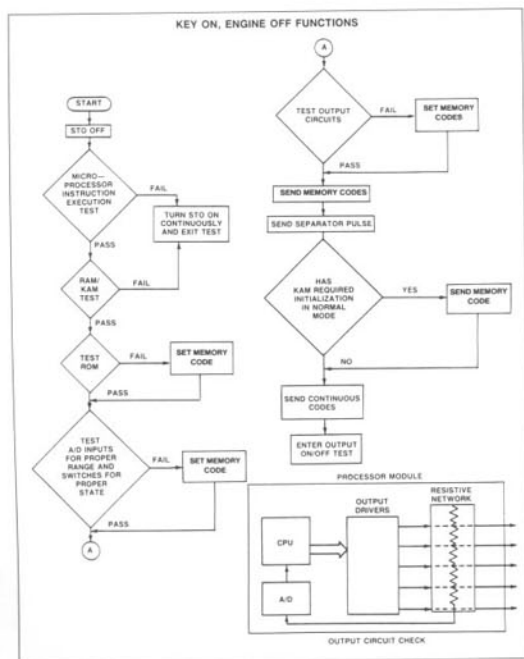

Fig. 4-3. Key On Engine Off (KOEO) Self-Test.
**KOEO (Key ON Engine Off) codes:** To see what happens when you activate KOEO Self-Test, follow the flow chart in Fig. 4-3. From Self-Test Output (STO) OFF, the sequence begins with Microprocessor instruction-execution test.